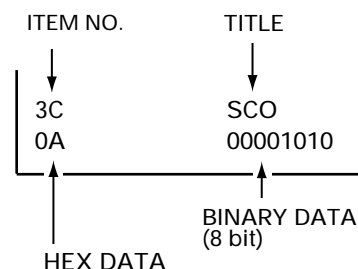

Figure 1. Service Menu Display
- While pressing the MENU key on the **front control panel**, reconnect the AC power cord. The Service Menu Display will now appear. (See Figure 1.)